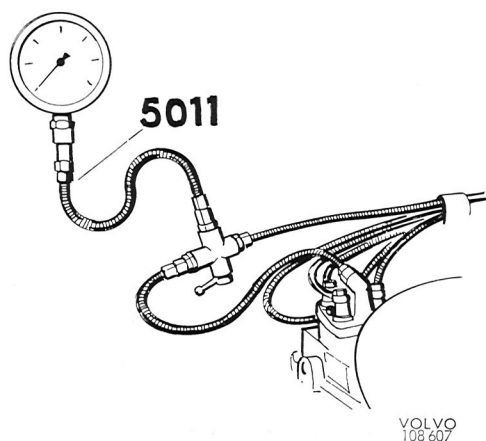

Fig. 2-189. Pressure gauge connection
1. Connect pressure gauge 5011 between the fuel distributor and the line pressure regulator, see Fig. 2-189.